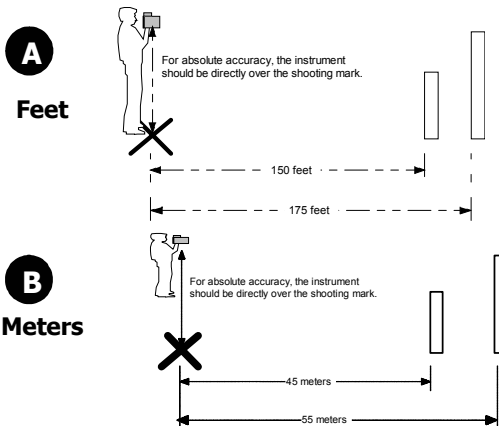

Figure 28. Delta Distance Test
If your UltraLyte LR B measures Miles per Hour and Feet, LTI recommends that the first target should be 150 feet from the shooting mark, and the second should be 175 feet from the mark. See Figure 28(A). If there is not enough space available, that specific distance is not crucial. However, the distance between the target and the shooting mark must be a multiple of 1 foot, not a fraction of a foot.
If your UltraLyte measures Kilometers per Hour and meters, LTI recommends that the first target should be 45 meters from the shooting mark, and the second should be 55 meters from the mark. See Figure 28 (B). If there is not enough space available, that specific distance is not crucial. However, the distance between the target and the shooting mark must be a multiple of 1 meter; not a fraction of a meter
Refer to the instructions below and Figure 28 as a guide for positioning the targets and the shooting mark.
Refer to Table 8 (below) and Figure 28 (see page 40) to do the Delta Distance Test. Note that, for display purposes, each measurement is rounded to whole feet or tenths of meters.